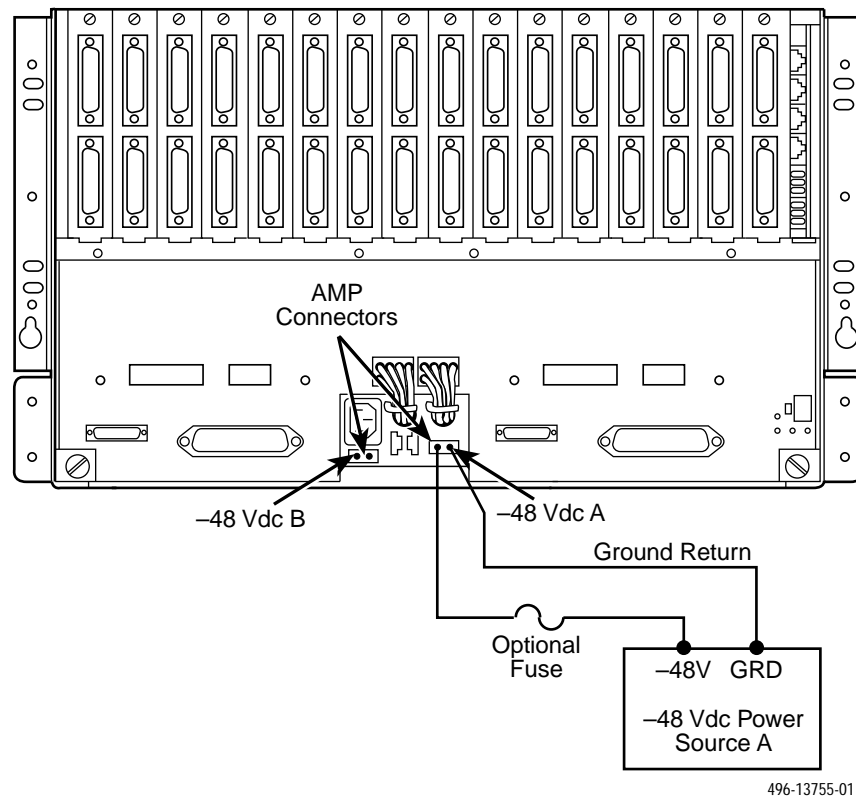

Figure 2-5. Using One Power Source and One Input Power Cable for Basic (shown) or Redundant Mode
2. Provide external fusing, if desired. (The fuse shown in Figure 2-5 is optional as per your requirements.) The optional fuse should have a rating of 6 amperes, 250 volts, and be a fast-acting type. Use a fuse similar to Littlefuse #312006.
3. Plug the input power cable to *either* the –48VDC A connector or the –48VDC B connector. See Figure 2-5. (The option strap settings for this power option are listed in Table 2-2.)
2. Provide external fusing, if desired. (The fuses shown in Figures 2-5, 2-6, and 2-7 are optional as per your requirements.) An optional fuse should have a rating of 6 amperes, 250 volts and be a fast-acting type. Use a fuse similar to Littlefuse #312006.
3. If you have one input power cable and one -48 Vdc power source, plug the input power cable to *either* the -48VDC A connector or the -48VDC B connector. See Figure 2-5. (The option strap settings for this power option are listed in Table 2-4.)